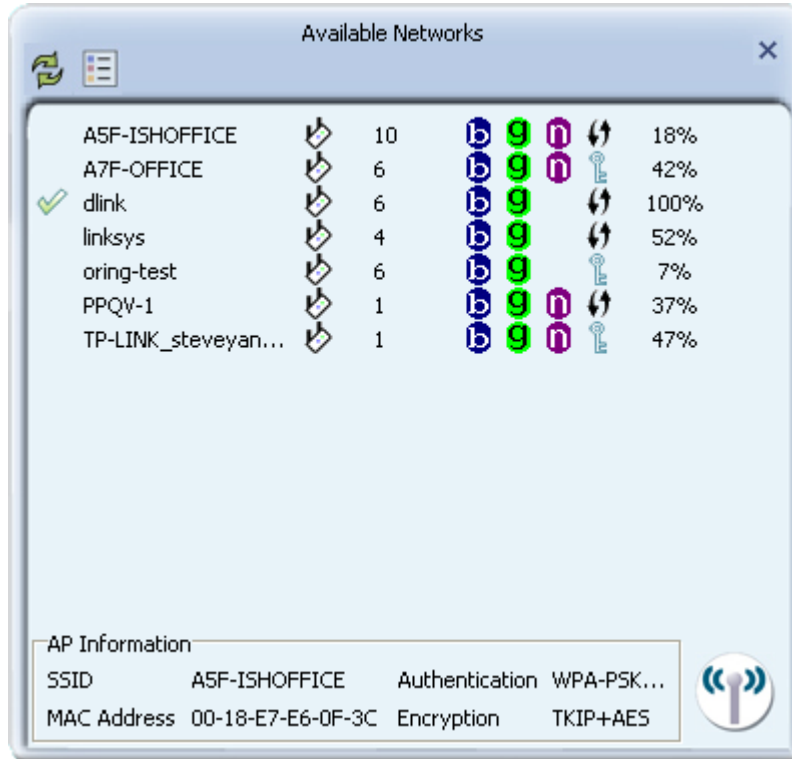

Figure 3-8: Available Networks
Step 2: Click the search button  to search the available wireless networks, as shown in **Figure 3-8**.